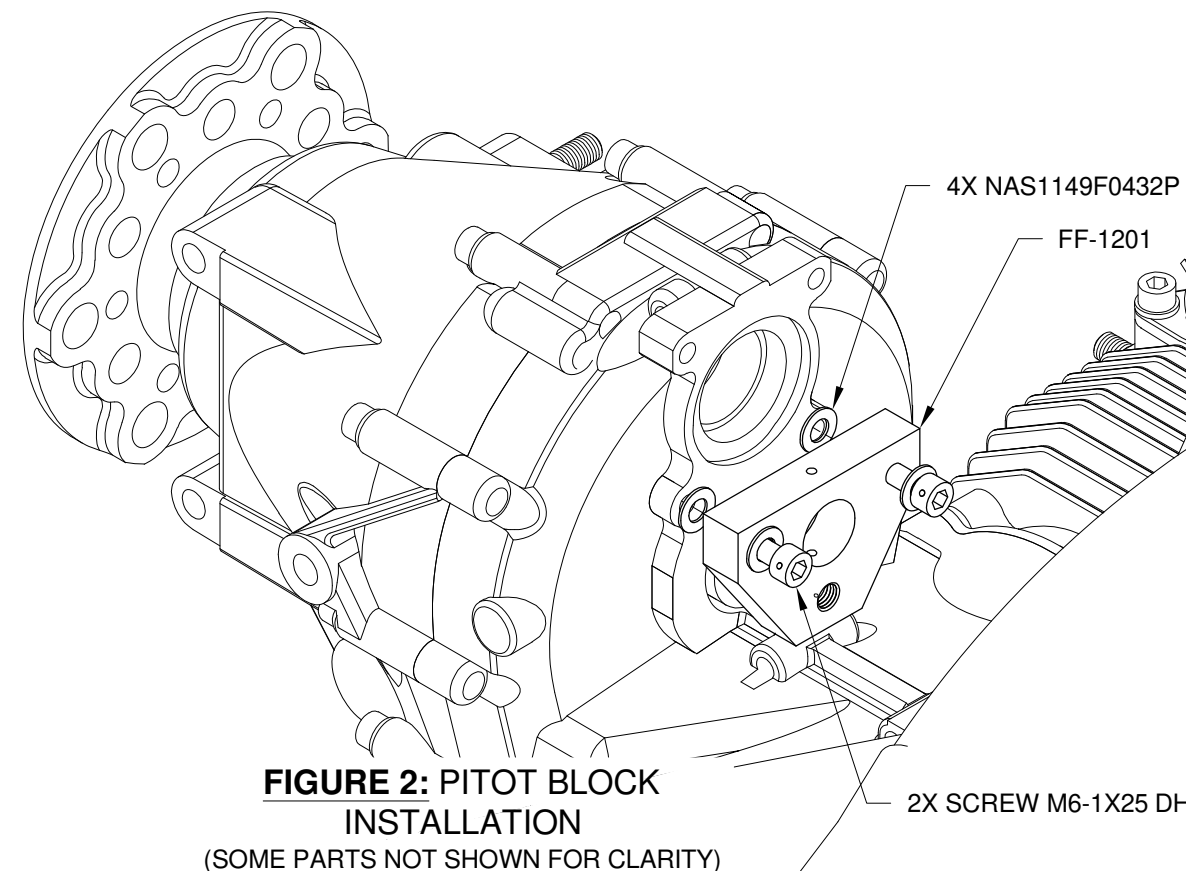
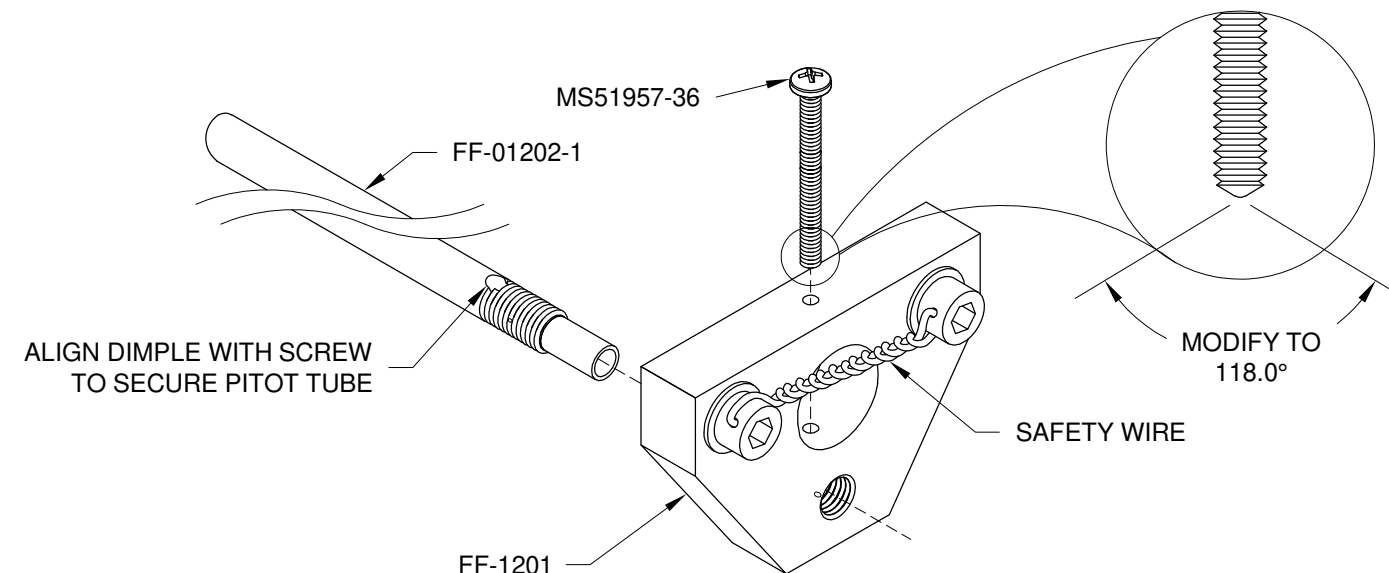

FIGURE 2: PITOT BLOCK INSTALLATION
FIGURE 3: ATTACHING THE PITOT TUBE
Step 4: Mount the FF-1201 with the hardware called out in Figure 2. The FF-1201 should be mounted with the threaded half aft. Turn the cap screws until they touch the surface of the washers, turn an additional 1/4 turn and stop. Safety wire the cap screws together as shown in Figure 3.
Step 5: Modify the end of the MS51957-36 screw to be pointed as shown in the detail view of Figure 3. A belt sander works well here.
Step 6: Insert the MS51957-36 shown in Figure 3 to "tap" the #36 hole in the FF-1201. Remove the screw and insert the FF-01202-1 through the prop shaft and into the FF-1201. Turn the FF-01202-1 until the marks made on the FF-01202-1 and FF-1201 align. Insert the MS51957-36 as shown in Figure 3 and tighten by hand until it just bottoms on the FF-01202-1. Check that the front of the FF-01202-1 is properly oriented. The head of the MS51957-36 will not be in contact with the pitot block.